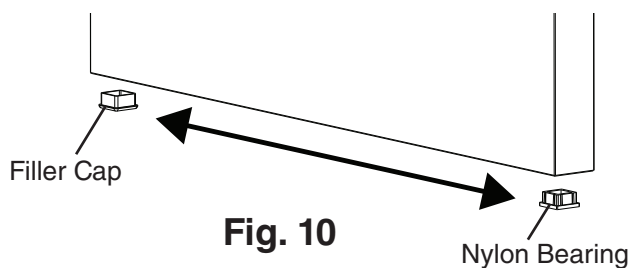

Fig. 10
- 10) Remove the filler cap and nylon bearing from the bottom of the door. See Fig. 10. Reinstall on the opposite side.